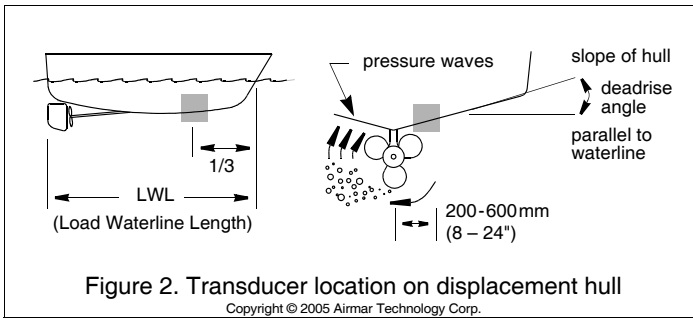

Figure 2. Transducer location on displacement hull
- **Displacement hull powerboat**—Locate about 1/3 of the way along the LWL and 200–600mm (8–24") off the centerline (see Figure 2). The starboard side of the hull where the propeller blades are moving downward is preferred.
1. Measure the deadrise angle of the hull at the stuffing tube using an angle finder or digital level (see Figure 2).